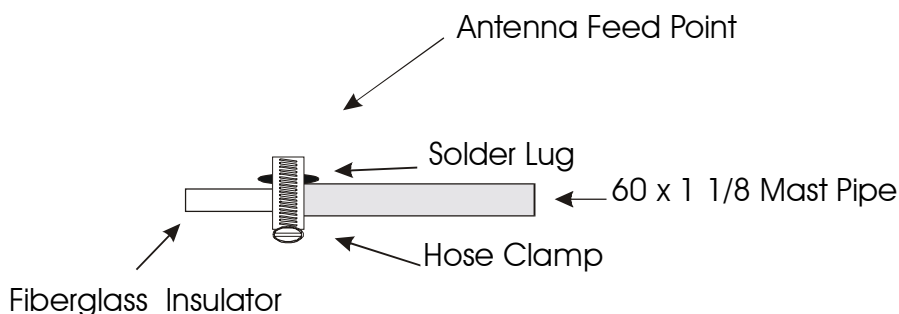

Figure 2
- [ ] 9. Now the hollow fiberglass insulator should be placed approximately 3 1/2" into the 60" x 1 1/8" aluminum tubing. See Figure 2.
- [ ] 10. Place one of the hose clamps around the aluminum tubing and snug the clamp using a 5/16" nut driver. The center conductor of the coax will be connected to the antenna using a solder lug placed under the clamp. Refer to figure 2.
The antenna may be quickly removed to be hidden from view. This is easily accomplished by loosening the hose clamp at the base of the antenna shown in Figure 2. Carefully pick up the antenna mast. Be sure to watch for overhead tree limbs and other objects that could come into contact with the antenna during removal. These objects could cause the antenna to become unbalanced and fall, resulting in personal injury and damage to the antenna. Store the antenna in a safe place to prevent damage.